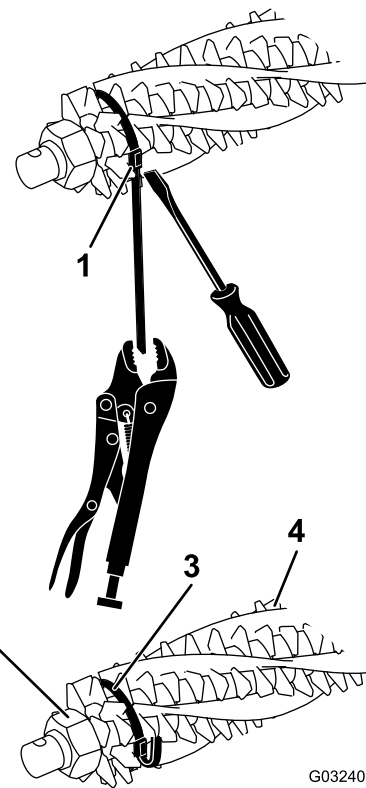
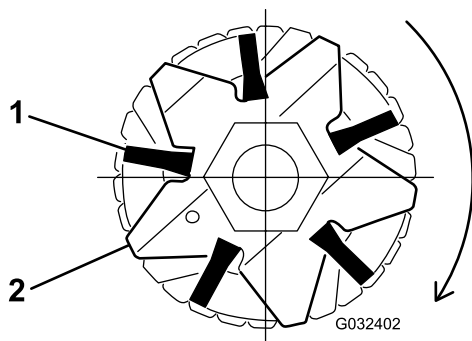

Figure 19
Figure 21
2. Loosen the groomer blade-retaining nuts on each end of the groomer shaft (Figure 19).
4. Verify that the brushes are seated in the groomer blade slots (Figure 19 and Figure 21).
5. Loosely wrap the straps, as shown in Figure 19, around the groomer reel shaft and brushes inserting the straps in the grooves in the brushes Figure 21.
Note: If the broomer brushes are not seated properly in the blade slots, loosen the groomer-blade retaining nuts on each end of the groomer shaft, position the broomer brushes properly in the blade slots, and tighten the groomer-blade retaining nuts (Figure 19).
7. While pushing a screwdriver against the strap buckle, grasp each strap with a locking pliers and pull the straps tight until they lock into the brush grooves (Figure 19).